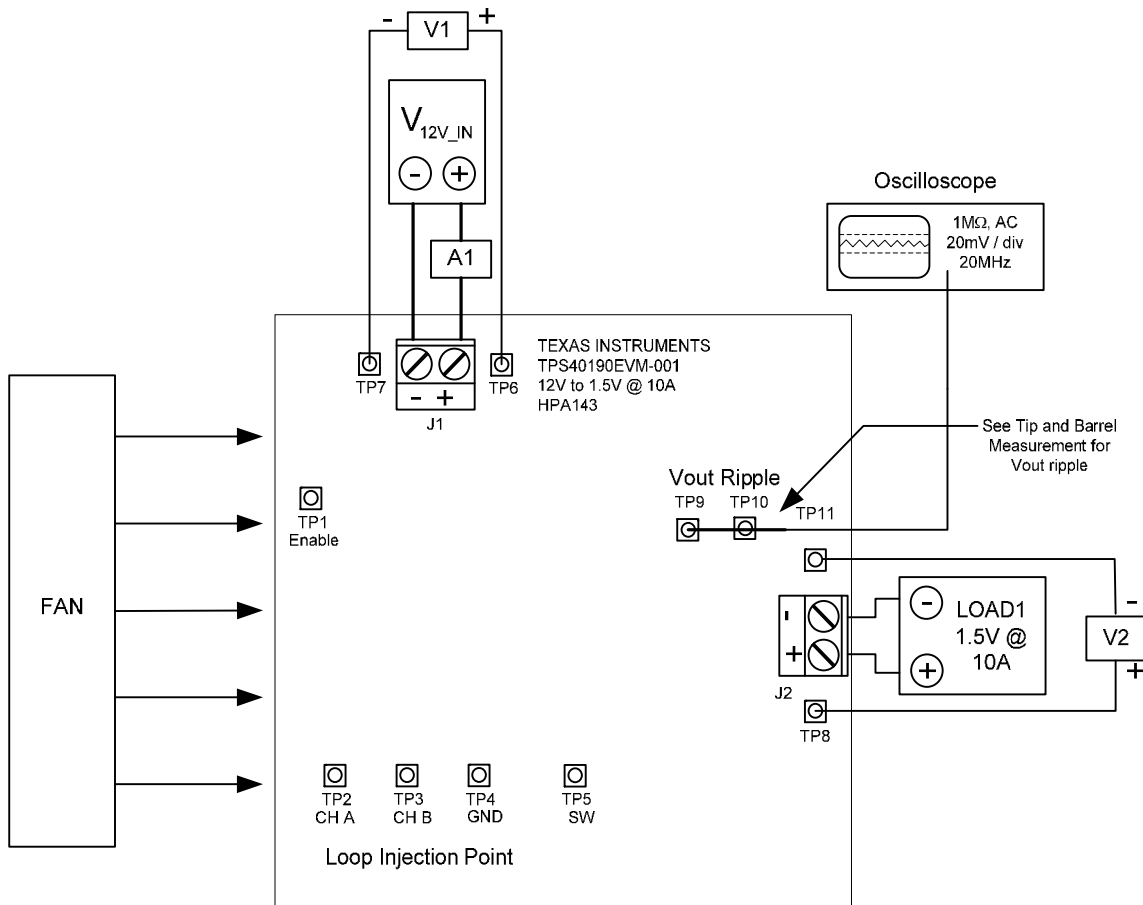
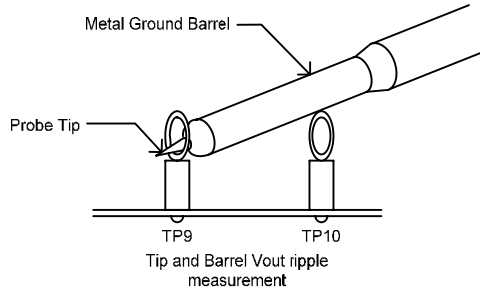

Figure 2: TPS40190EVM-001 Recommended Test Set-Up
Figure 3: Output Ripple Measurement - Tip & Barrel using TP9 and TP10
The input voltage source (V_{12V_IN}) should be a 0-15V variable DC source capable of 5A_{dc}. Connect V_{12V_IN} to J1 as shown in Figure 3.
A Digital or Analog Oscilloscope can be used to measure the ripple voltage on V_{OUT} . The Oscilloscope should be set for 1M Ω impedance, 20MHz Bandwidth, AC coupling, 1 μ s/division horizontal resolution, 20mV/division vertical resolution for taking output ripple measurements. TP 9 and TP 10 can be used to measure the output ripple voltage by placing the oscilloscope probe tip through TP 9 and holding the ground barrel to TP 10 as shown in Figure 3. For a hands free approach, the loop in TP 10 can be cut and opened to cradle the probe barrel. Using a leaded ground connection may induce additional noise due to the large ground loop area.
Shown in Figure 3 is the basic test set up recommended to evaluate the TPS40190EVM-001. Please note that although the return for J1 and J2 are the same, the connections should remain separate as shown in Figure 2.
2. Prior to connecting the DC input source, V_{12V_IN} , it is advisable to limit the source current from V_{12V_IN} to 5.0A maximum. Make sure V_{12V_IN} is initially set to 0V and connected as shown in Figure 2.
3. Connect the ammeter A1 (0-5A range) between V_{12V_IN} and J1 as shown in Figure 2.
4. Connect voltmeter V1 to TP6 and TP7 as shown in Figure 2.
5. Connect LOAD1 to J2 as shown in Figure 2. Set LOAD1 to constant current mode to sink 0Adc before V_{12V_IN} is applied.
6. Connect voltmeter, V2 across TP8 and TP11 as shown in Figure 2.
7. Connect Oscilloscope probe to TP9 and TP10 as shown in Figure 3.
8. Place Fan as shown in Figure 2 and turn on, making sure air is flowing across the EVM.